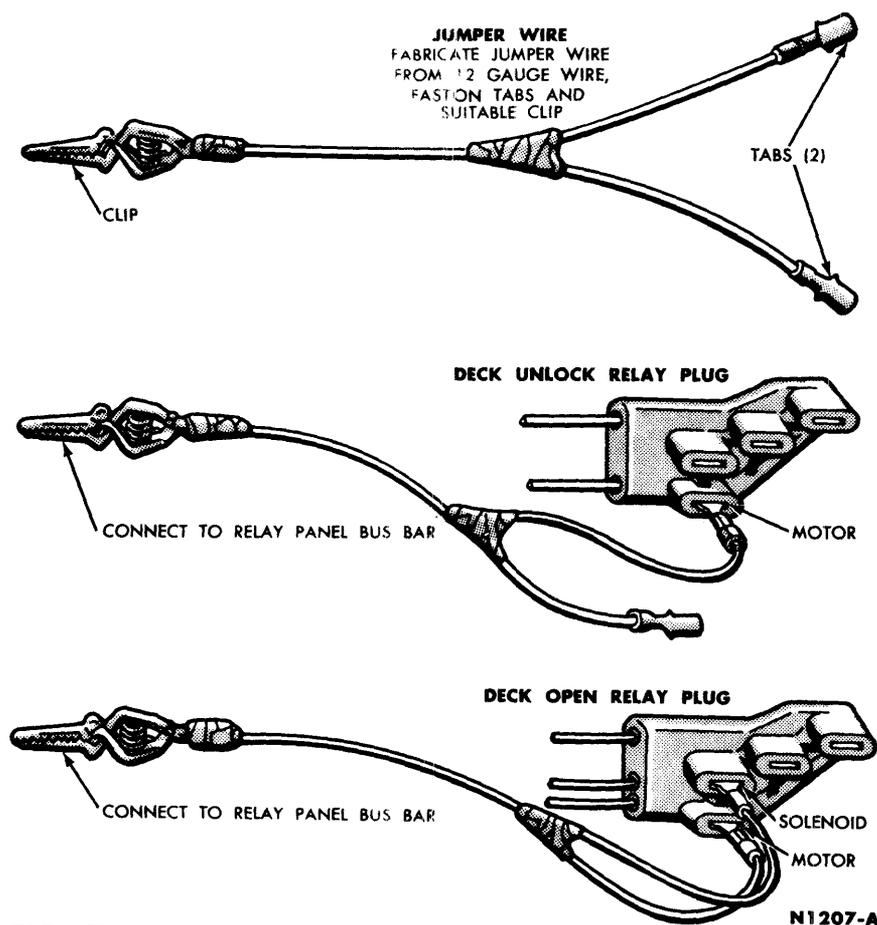

FIG. 79—Alternate Method of Opening Deck Lid
2. Remove the multiple plug from the deck unlock relay (Fig. 79).
3. Fabricate a jumper wire as shown in Fig. 79. Energize the deck unlock motor through the disconnected multiple plug and relay panel bus bar with the jumper wire (Fig. 79).
open relay plug with the use of the jumper wire (Fig. 79).